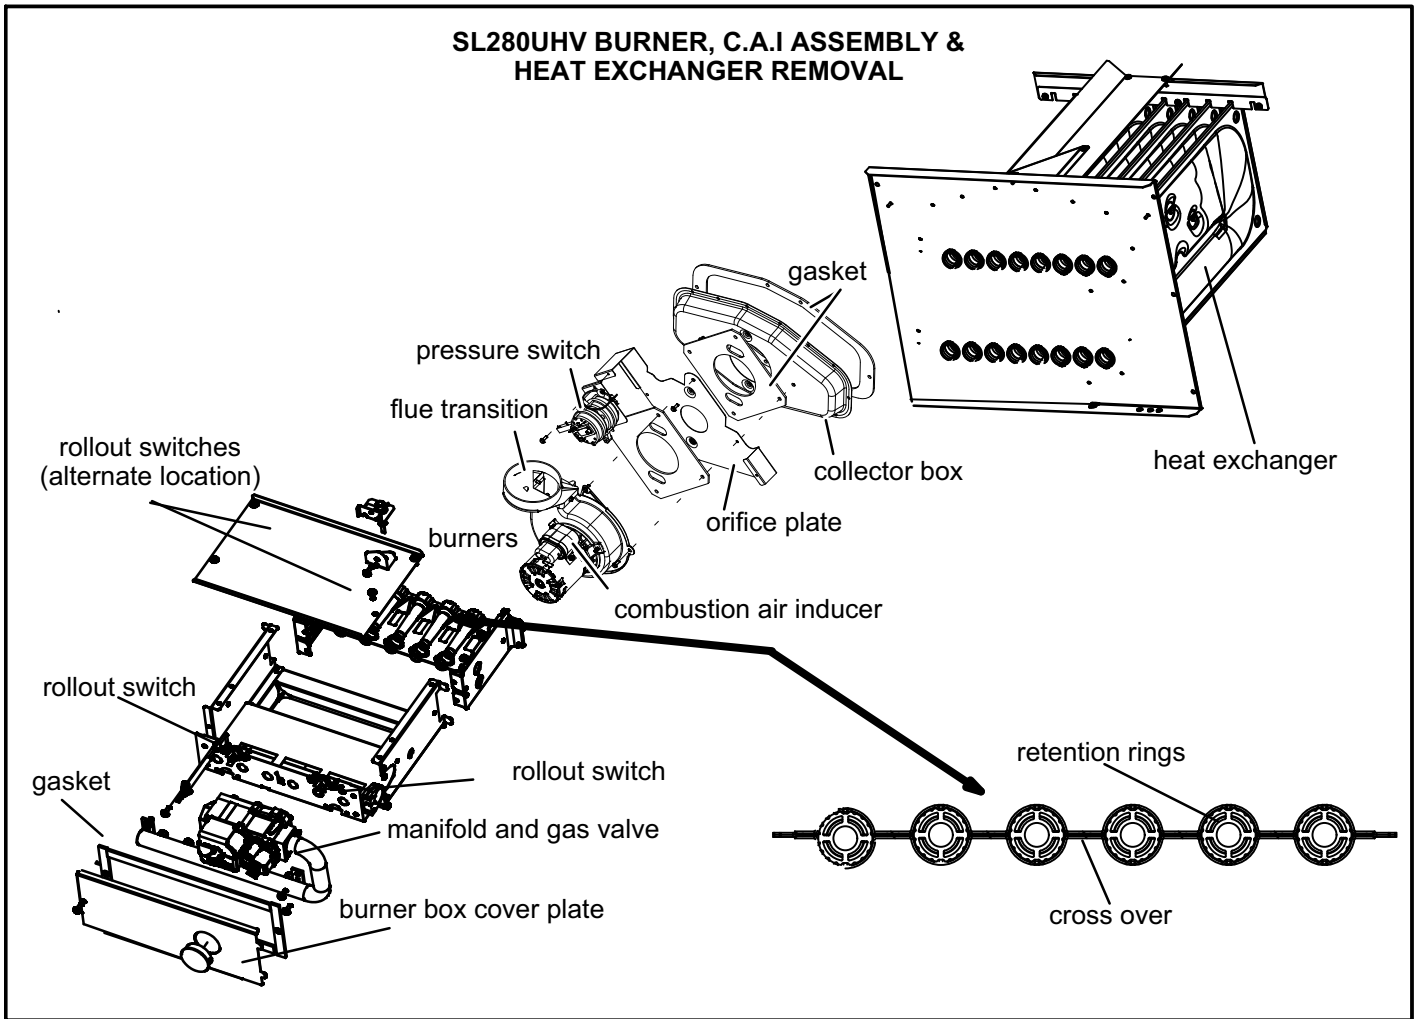

FIGURE 22
- 12 - To clean burners, run a vacuum cleaner with a soft brush attachment over the face of burners. Visually inspect inside the burners and crossovers for any blockage caused by foreign matter. Remove any blockage. Figure 22 shows burner detail.